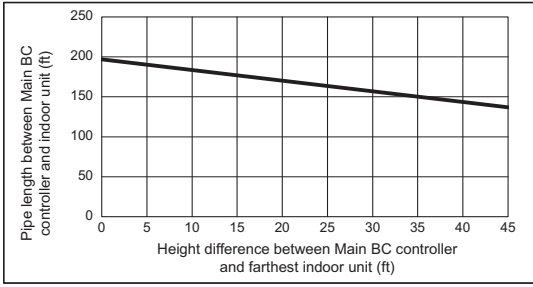

Fig. 2
*2. Details refer to Fig. 2.
*9. When the piping length or the vertical separation exceeds the limit specified in Fig. 2, connect a sub BC to the system. The restriction for a system with a sub BC connection is shown in Fig. 3. When a given system configuration falls within the shaded area in Fig. 3, increase the size of the high-pressure pipe and the liquid pipe between the main BC and sub BC by one size. When using P12, P15, P18, P36, or P48 model of indoor units, increase the size of the liquid branch pipe between the sub BC and indoor unit by one size. When using indoor models P54 or larger, the restrictions shown in Fig. 2 cannot be exceeded.
*9. When the piping length or the vertical separation exceeds the limit specified in Fig. 2, connect a sub BC to the system.
When using indoor models P54 or larger, the restrictions shown in Fig. 2 cannot be exceeded.